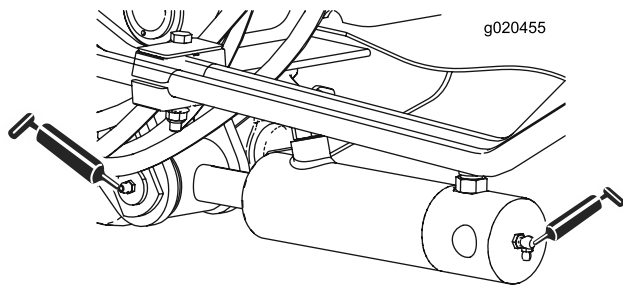

Figure 41
- 2 (each side) lift-arm-cylinder bushings (Figure 41)